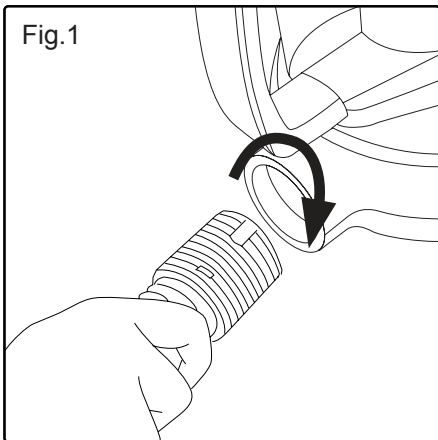

Fig.2
- ◆ To disconnect the hose unit from the vacuum cleaner, turn the connection to the left side and pull out the hose. (Fig.2).